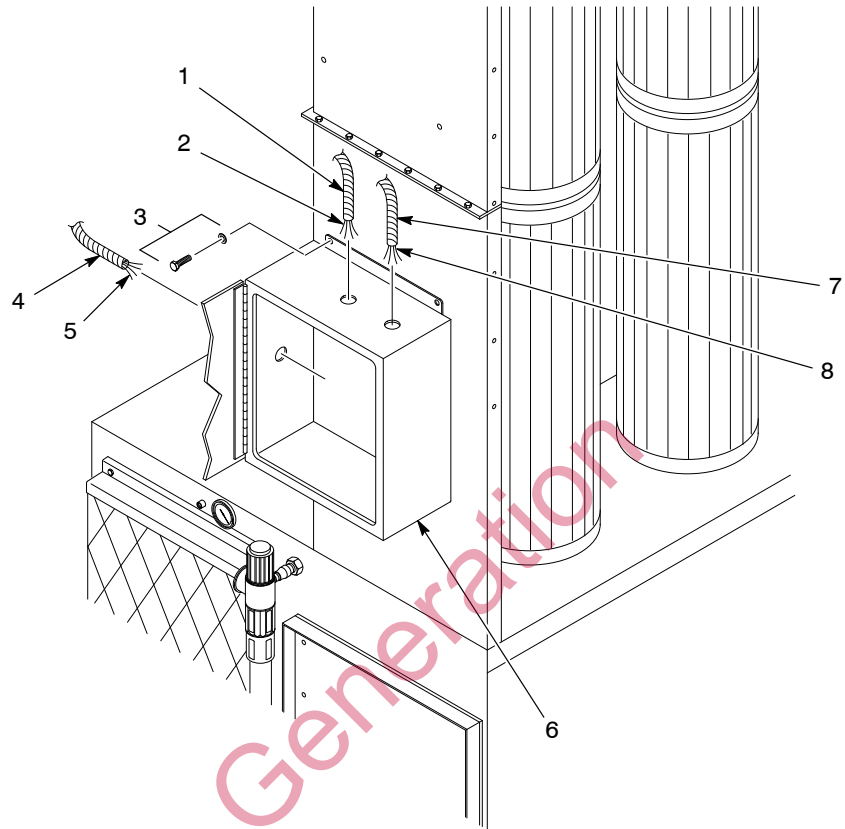

Figure 3-3 Electrical Connections
See Figure 3-3.
4. See Figure 3-3. Pull the main electrical wiring (2) through the appropriate size conduit (1) and connect it to the panel disconnect switch (DISC 101).